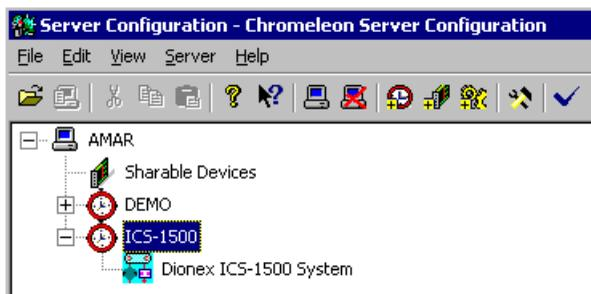

Figure B-12. Server Configuration with ICS-1500 Timebase
- Click the + icon next to the server name to expand the folder. The timebase you created is displayed (see Figure B-12).